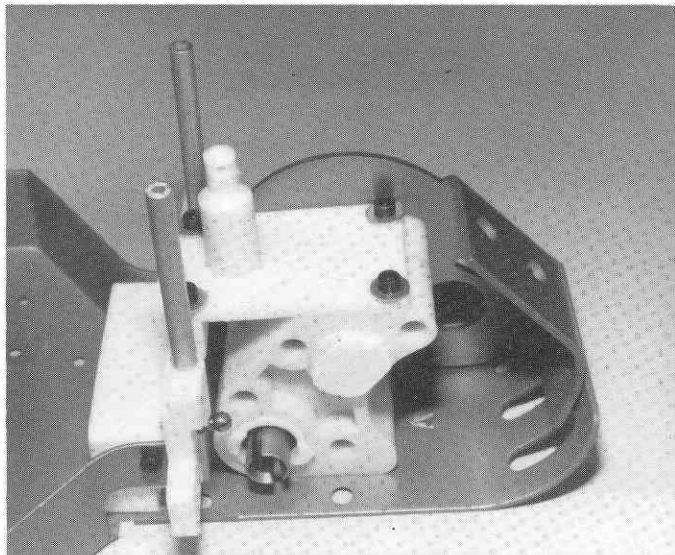

Fig. 105
□ **Fig. 105** Install the transmission brace with 4 Allen screws and washers, as shown, but do not tighten all the way down yet.